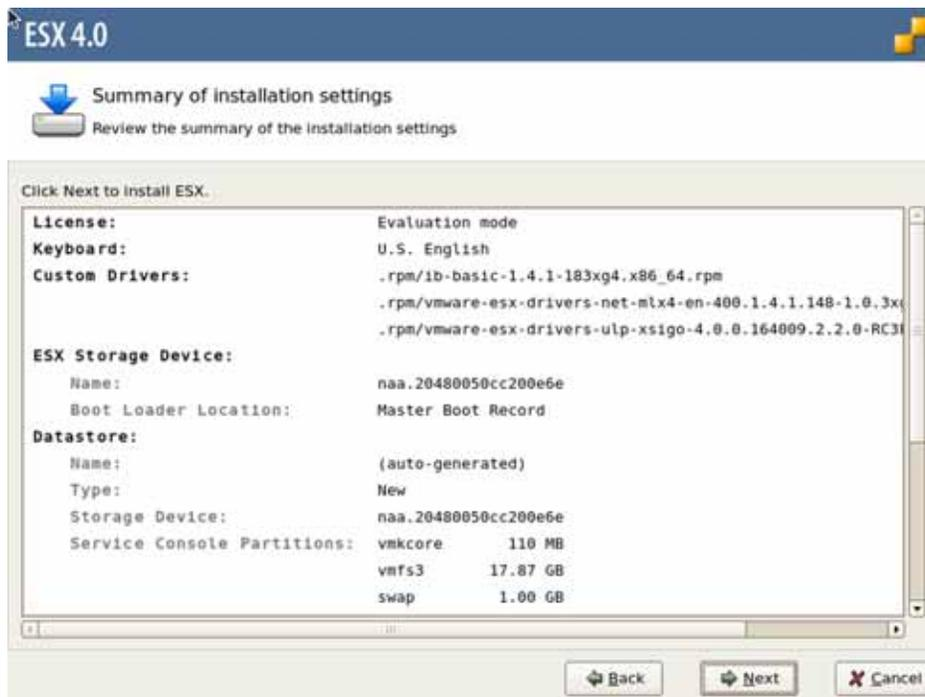

Figure 23 ESX Installer — Review SAN Boot and Other Settings
Step 20 When all ESX drivers and Xsigo host drivers, and SAN Boot options are specified, verify the intended configuration by reviewing the Summary of Installation dialog. Figure 23 shows an example of this dialog for illustrative purposes only. Your actual dialog will differ.